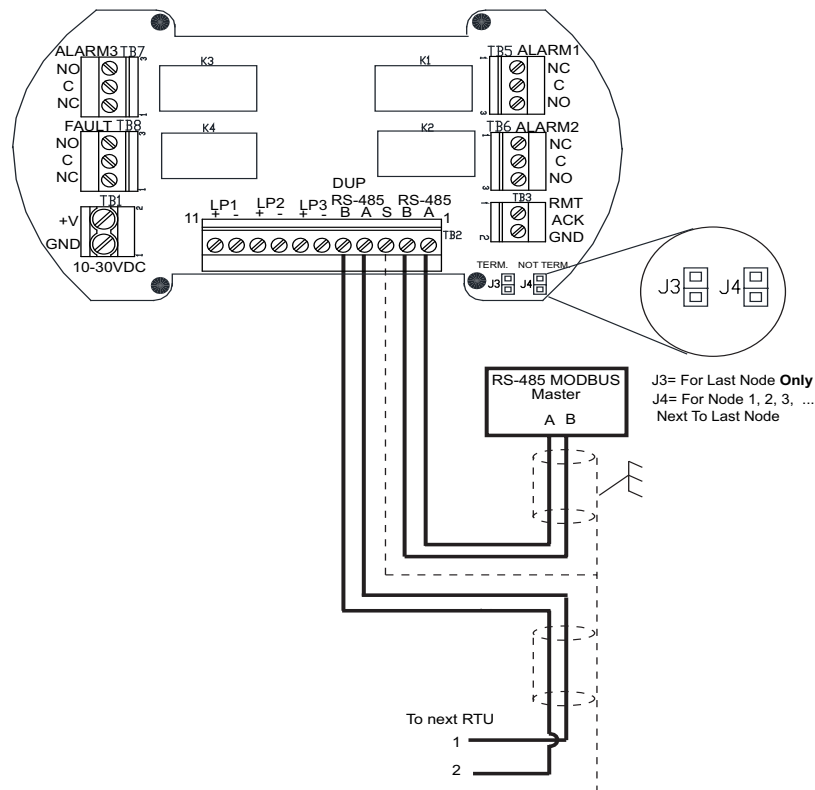

Figure 4-21: MODBUS Connections – Terminal/Relay/MODBUS RS-485 PC
6. Connect your MODBUS master input wire signals at TB2 Pin1 (A) and TB2 Pin2 (B) on the terminal/relay/MODBUS RS-485 PCB.
7. Cable shielding must connect to TB2 Pin3 (S).
8. Route output wiring to next RTU from TB2 Pin4 (A) and TB2 Pin5 (B) (refer to Figure 4-21: MODBUS Connections – Terminal/Relay/MODBUS RS-485 PC).
12. Insert and tighten the four (4) standoffs.
13. Push the LCD PCB/CPU PCB set into the four (4) standoffs.